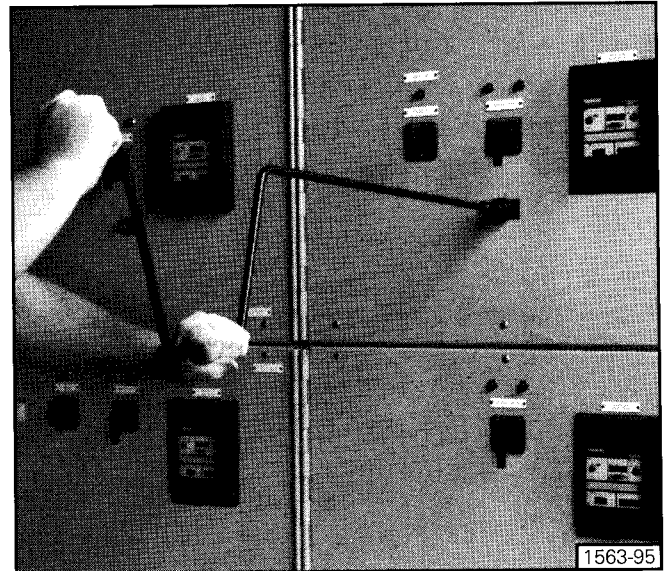

Figure 37. Racking of Circuit Breaker
1. Insert the racking crank on the racking screw on the front of the breaker cell, and push in (see "Racking Crank Engagement Procedure"). This action operates the racking interlock latch. **Figure 37** shows racking of a circuit breaker.